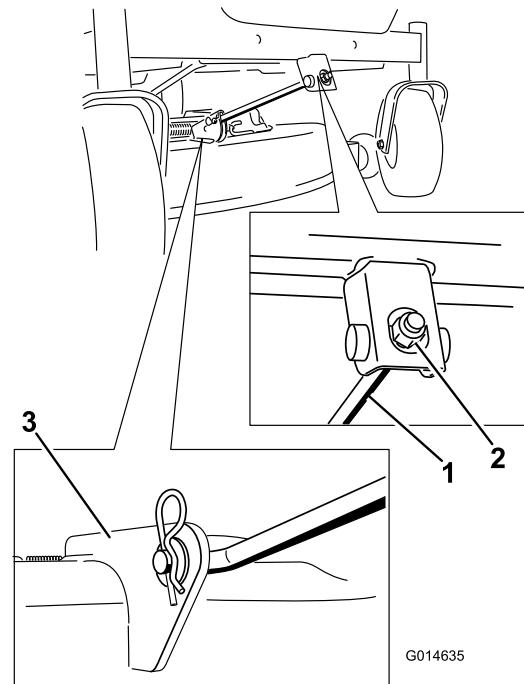

Figure 68
5. Remove the hairpin-cotter pin from the front support rod, and remove the rod from the deck bracket (Figure 68).
- Attach the front support rod to the mower deck with the clevis pin and hairpin-cotter pin (Figure 68).